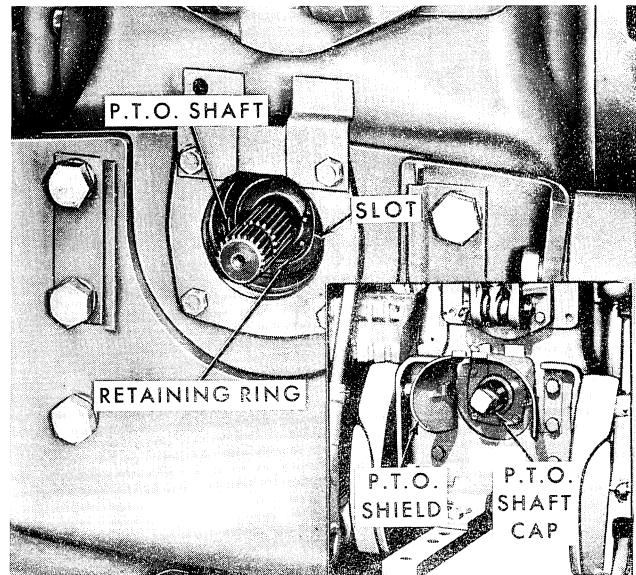

Figure 3
1. Remove the P.T.O. shaft cap, Insert, Figure 3.
NOTE: *If difficulty is encountered when installing the 6-spline shaft, place a screwdriver in the slot, Figure 3, and turn the sleeve until the splines on the shaft will engage with the sleeve.*